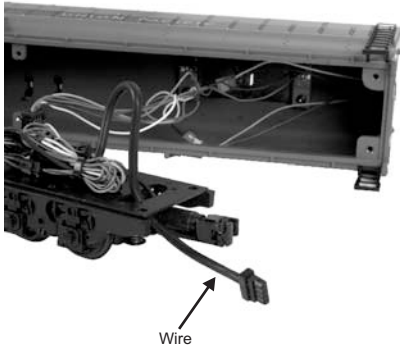

Figure 2. Coal Tender with Shell Removed
2. Upon removing the tender body, identify the wire harness, which should be secured inside the chassis near the rear of the Main Tender. Refer to Figures 2 and 3 and follow how the wire harness is fed through the hole at the rear of the floor/chassis. Be sure not to bind or twist the harness during this process.